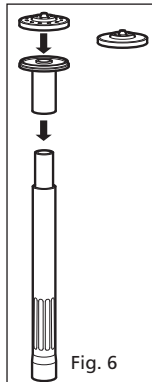

Fig. 6
- Select the desired fountain accessory. The 2 and 3 tier fountainheads simply snap onto the fountain stem (See Fig 6). The fountain stem pushes onto the narrower tube section of the telescopic fountain stem (See Fig 6). Then place the pump in the desired position. Note: Check that the inner stem of the telescopic tube has not been pushed inside the outer tube.